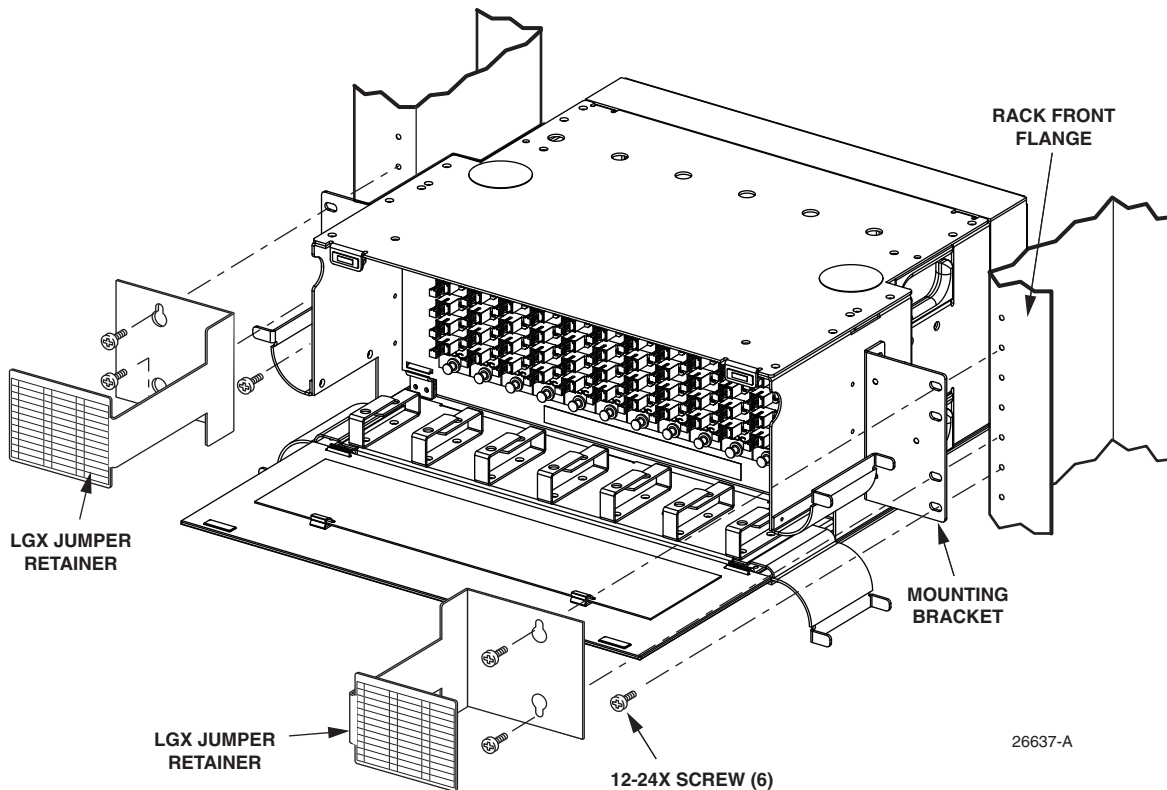

Figure 7. Installing the Connector Module (23-Inch Rack Shown)
Install the panel from the front side of the rack, using the following procedure. Refer to Figure 7.
► **Note:** If jumper retainers are present on the rack, remove the jumper retainers and reinstall them with the chassis as shown in Figure 7. The jumper retainers may be either LGX or the CommScope equivalent product.